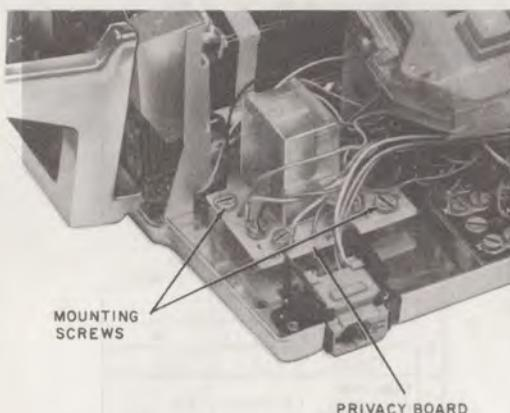

Fig. 36—Privacy Circuit Board Mounted in Telephone
- (1) Remove faceplate from telephone set.
- (2) Mount privacy circuit board on the two standoffs located at the left front of the telephone set base (Fig. 36).
- (3) Fasten circuit board to standoffs using mounting screws furnished with the telephone set.
- (4) Connect leads according to Table E.
- (5) Make sure all connections are tight and terminals are not crossed or shorted. Close telephone set.